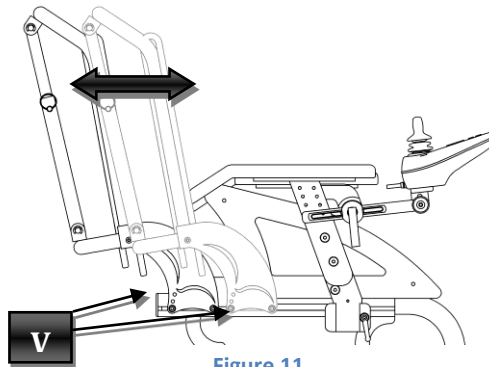

Figure 11
Seeing Figure 11 Loosen the screws (V), move back up to the desired position and retighten the screws